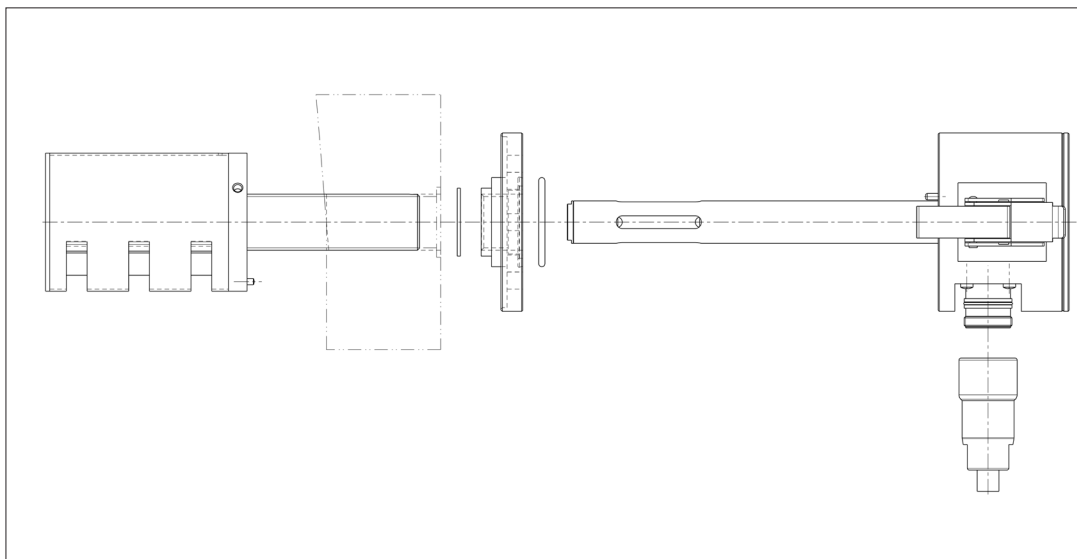

Fig. 8.12.Installation Step 1
- Take the SOG and screw it from the inner side of the crankcase into the hole until 16 mm of the thread overlap the outside surface. The mark TOP and the kerf are on top. This position is important for the correct working of SOG. Fig. 8.12.